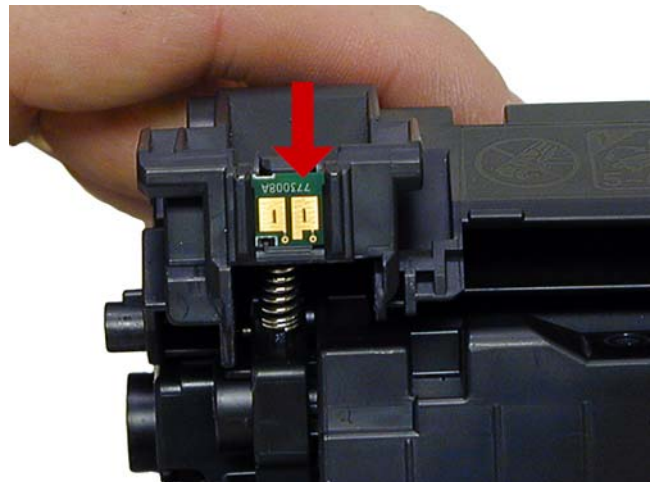

Figure 42
30) Replace the chip. See **Figure 42**